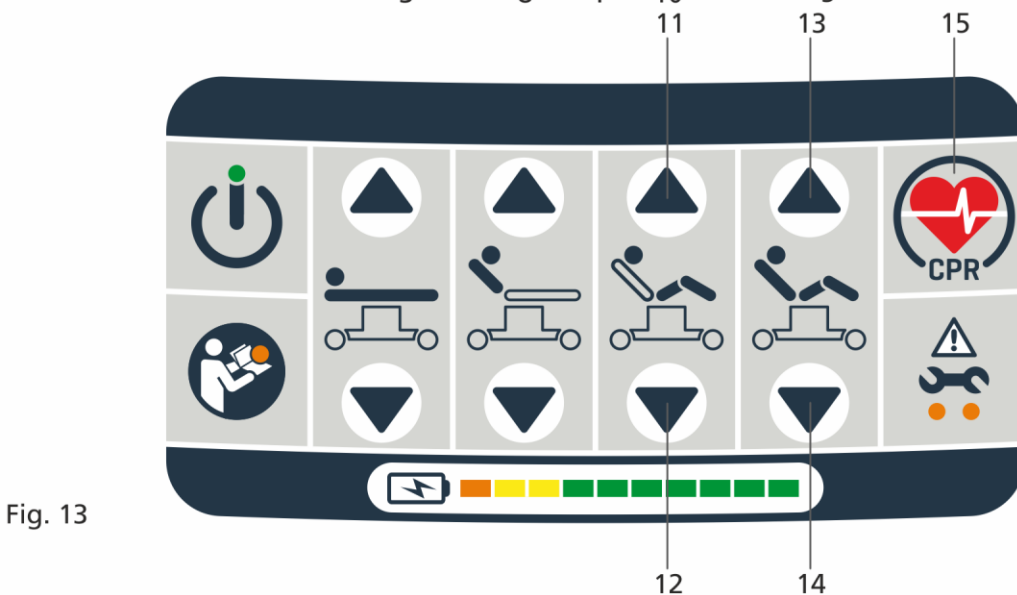

Fig. 13
Key to Fig.13 - User Interface (foot end), used on the following products; Powered Patient Trolley (21116), DRIVE Powered Patient Trolley (21114)
The KneeFlex is raised and lowered by depressing either the up or down button (items 11 & 12, Fig.13).
The backrest and KneeFlex can be simultaneously raised or lowered by depressing either the up or down button (items 13 & 14, Fig.13).